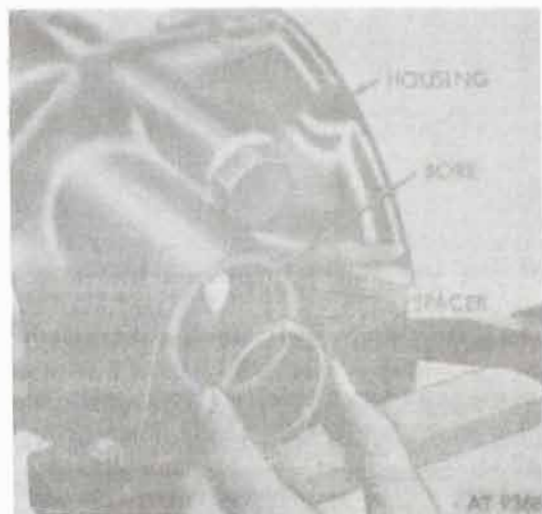

Figure 12-47. Pinion shaft rear bearing spacer.
b. Insert pinion shaft rear bearing spacer in housing bore. (fig. 12-47.)